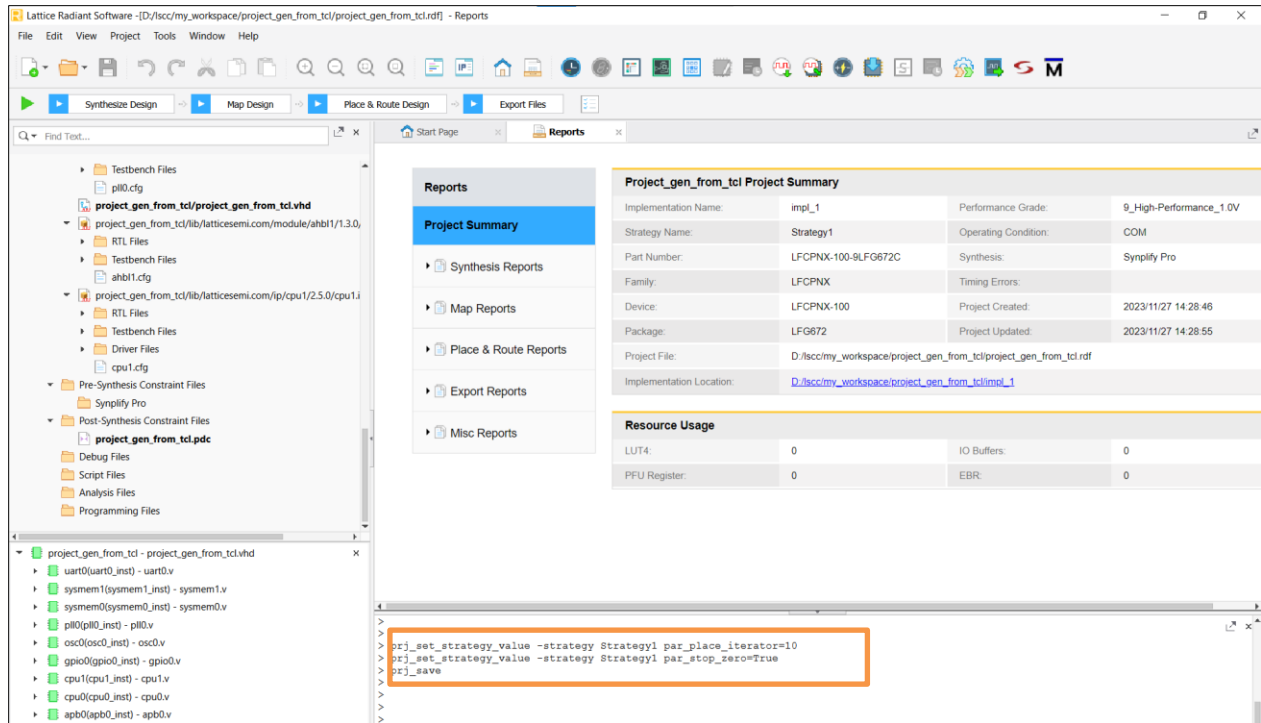

Figure 5.9. Radiant TCL Console
- d. Type the following commands in the Radiant TCL console (Figure 5.9).